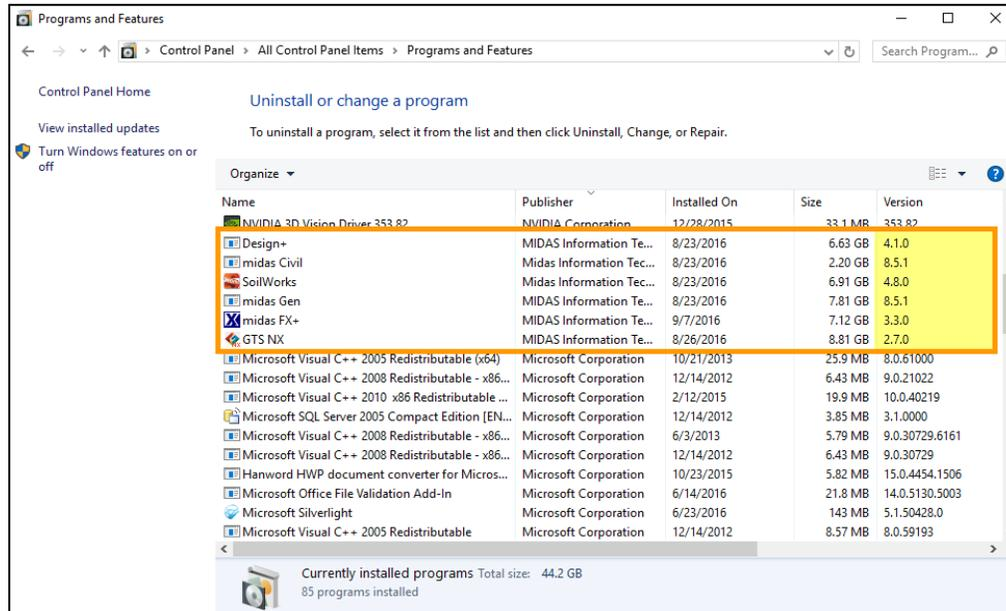

Figure 97 Version 3
- 2) Find midas programs and check a version (Refer to figure 97).